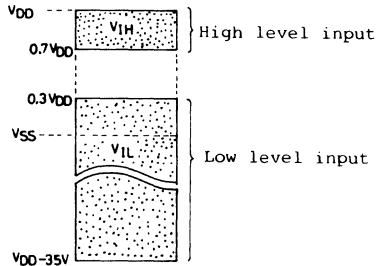

Fig. 3-1 Input level of ports A,B
High voltage input ports A₀ to 3, B₀ to 3 provide the input characteristic shown in Fig. 3-1. The pin input section contains a high voltage level converter. When the input level is high (V_{IH}), an "input current" of 1 to 2 μ A flows from the pin to the V_{SS} side through this converter. (Fig. 3-2)
- (c) judge if $V_{ON} + V_{SW}$ meets V_{IH}/V_{IL} condition of the input port shown in Fig. 3-1; and use a driver for level return if necessary.